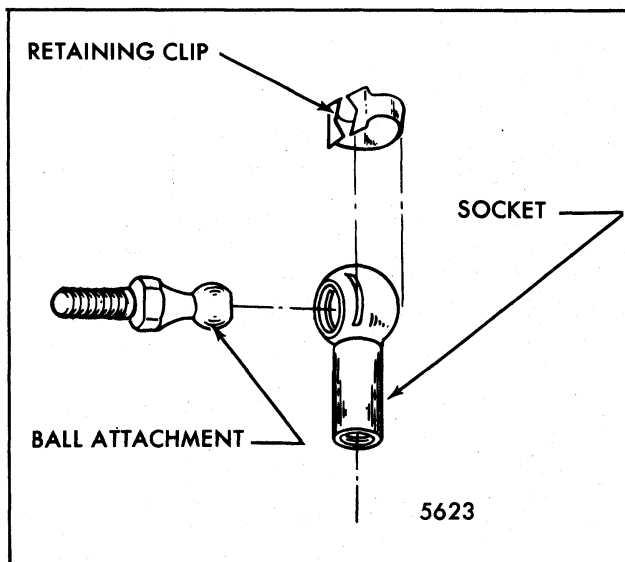

Fig. 7-8-Support Assembly Retaining Clip - "H-07, 77" and "X-17" styles
4. Remove lid side retaining clips (using scratch awl or similar tool) from both gas-operated support assemblies and disengage supports from lid side attaching ball (Fig. 7-8). Allow support assemblies to rest on compartment side panel trim.